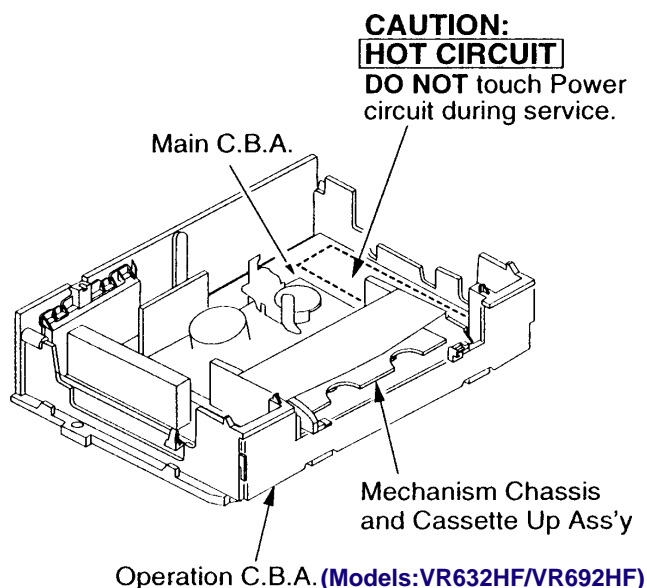

Fig. 2 - Service Position 1
Service Position (1) (Fig. 2)
2. Position the unit as shown in Fig. 2 to access the areas requiring service.